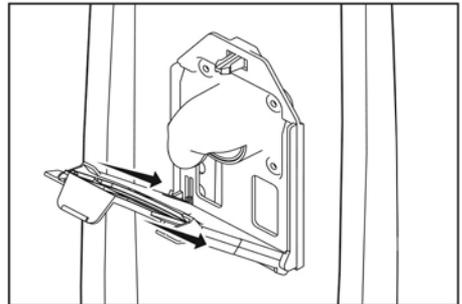

Fig. 3
3. To install a new bag, slide the bottom of the green bag collar into the bag holder until it “snaps” into place (Fig. 3).